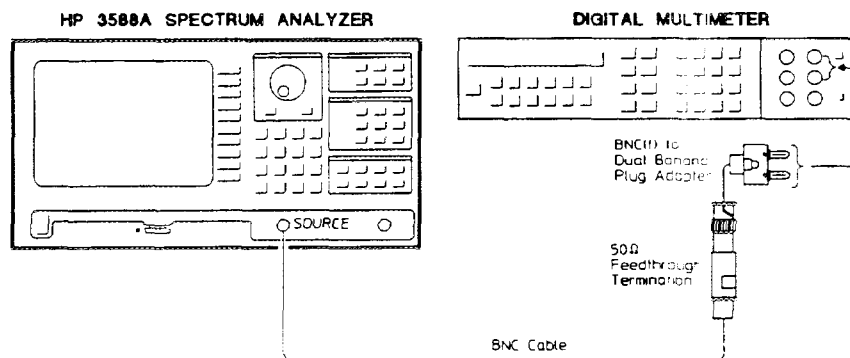

Figure 3-11. Low Frequency Response Setup
11. Connect the test equipment as shown in figure 3-11.